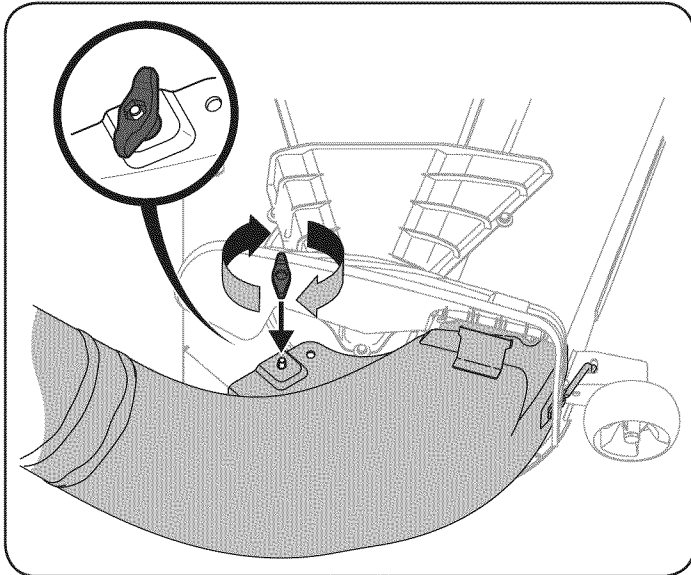

Figure 20
5. Secure the discharge chute elbow to the cutting deck using a (720-04122) wing knob included with the bagger kit. Refer to Figure 20.